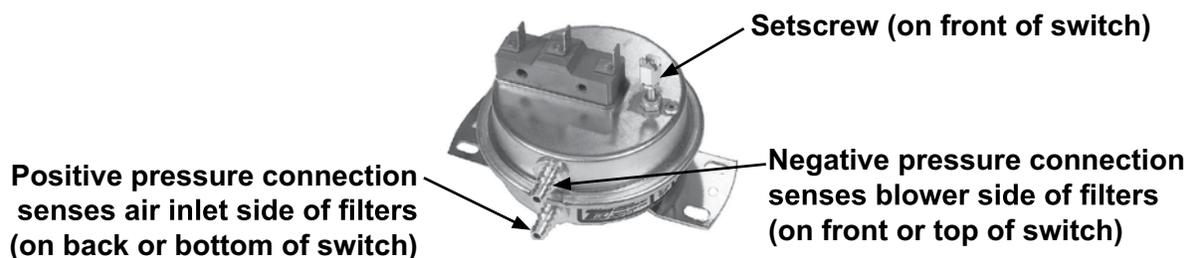

Figure 38. Dirty Filter Switch
2. Turn setscrew on dirty filter switch (see Figure 38) clockwise to increase pressure setting until filter light is energized or until setscrew is bottomed out.
3. Turn setscrew (see Figure 38) three full turns counter-clockwise or until setscrew is top ended. At this setpoint, filter light will be activated at approximately 50% filter blockage.